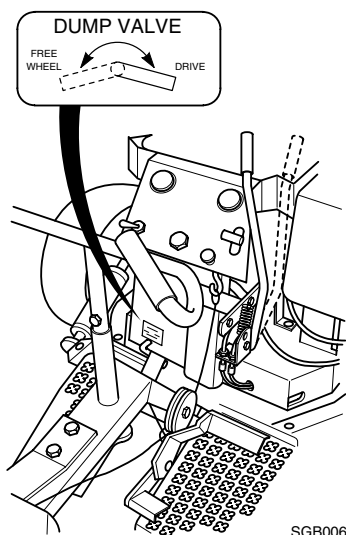

Figure 3. Dump Valve Location
7. To "freewheel" or move the machine around without the engine running, rotate the dump valve lever located on the left rear of the engine deck to the freewheel position (See Figure 3). The lever must be returned to the drive position to operate the machine.